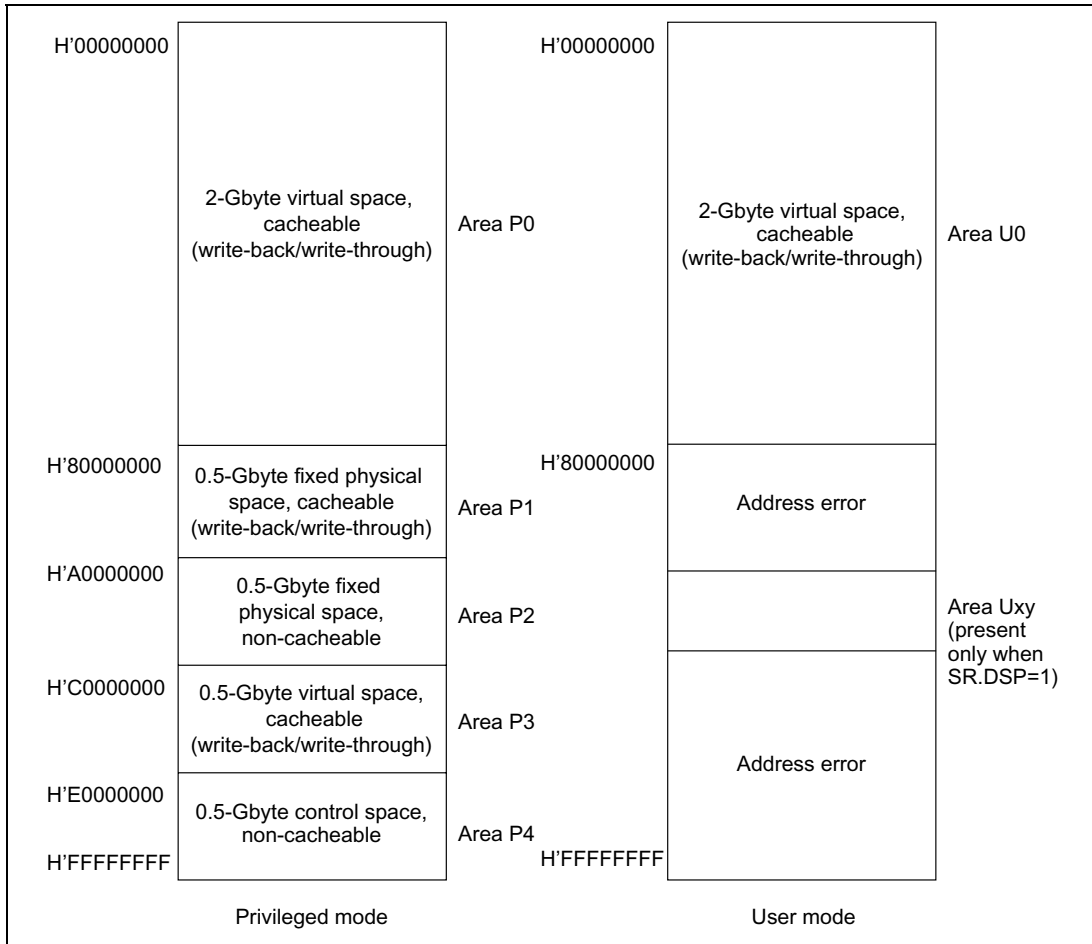

**Figure 3.2 Logical Address Space Mapping**
**Logical Address Space:** The SH7727 uses 32-bit logical addresses to access a 4-Gbyte logical address space that is divided into several areas. Address space mapping is shown in figure 3.2.